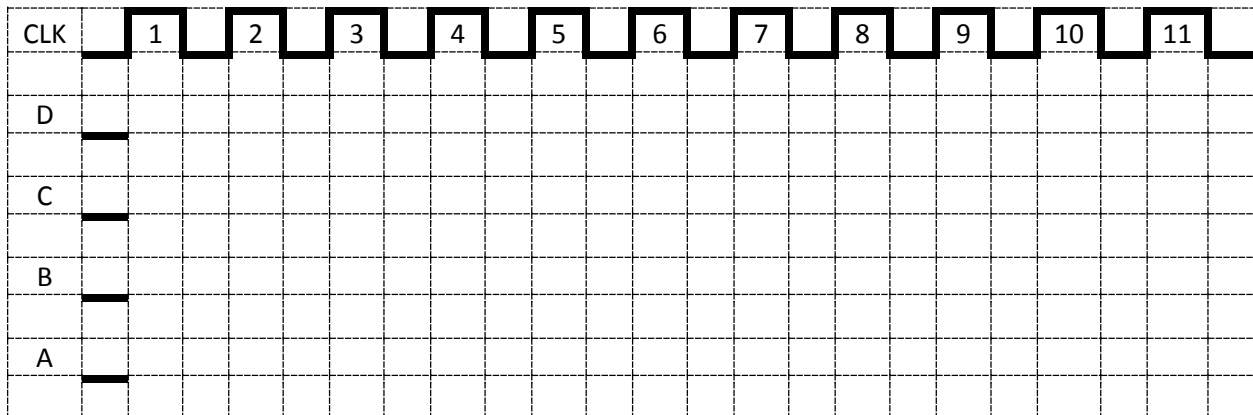

Figure 4
- 3.4. Draw the output of the four LEDs for the first 11 clock pulses Figure 4.